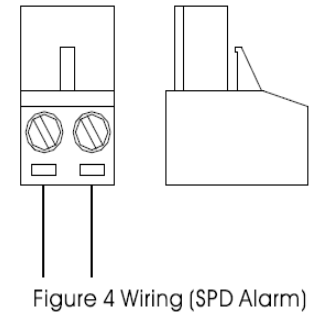

Figure 4 Wiring (SPD Alarm)
- 5.3 In case of remote alarm, alarm leads are connected to alarm terminals then be plugged into alarm interface. Please refer to Figure 4.